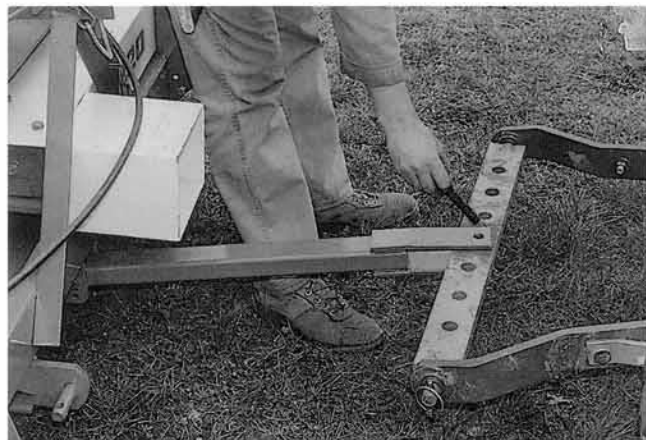

fig. 26
- Attach drawbar to the tractor linkage drawbar (Fig. 26),